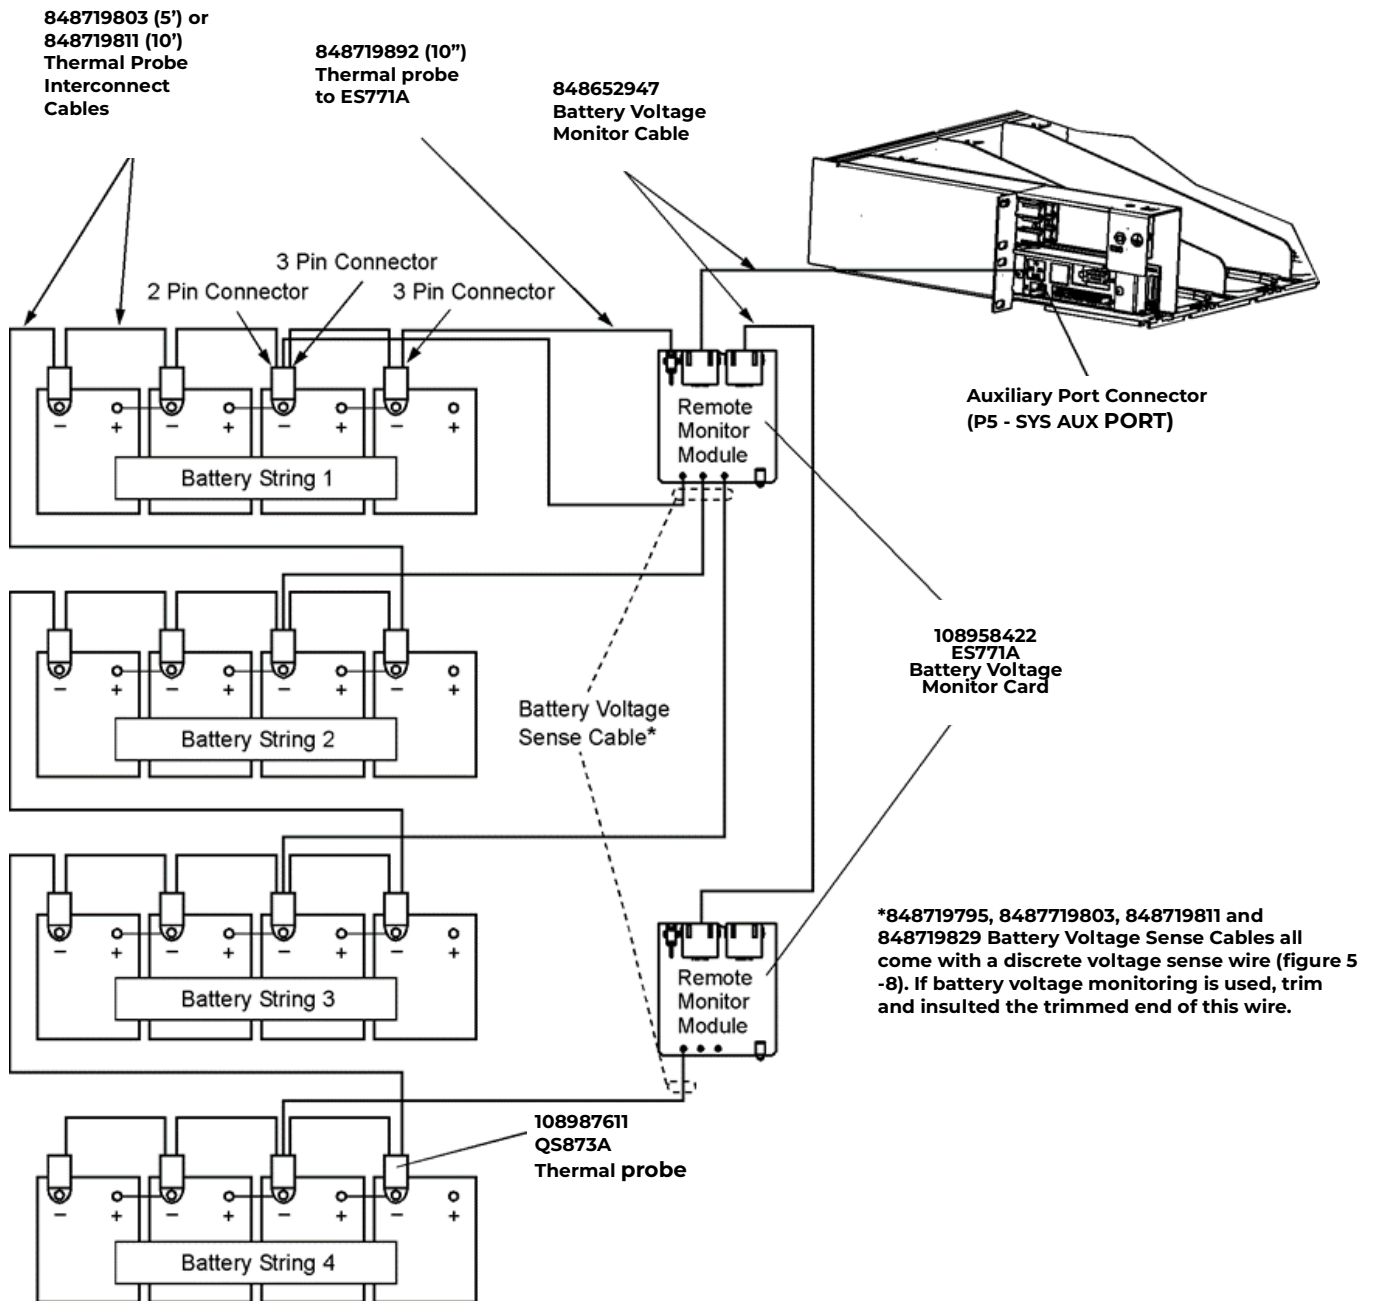

Figure 5-10: VT-Probe/Battery Voltage Monitor Connections to Controller
2.	<p>No - Locate the 848719795 ThermalProbe Cable. Near the 3 Pin connector (Probe end), the volt sense wire has a 1 Pin connector on the end, cut and discard this wire and insulate the trimmed end.</p> <p>Yes - Connect the 848652947 Battery Voltage Monitor Cable between the ES771A Battery Voltage Monitor Card and the controller P5- SYS AUX PORTconnector. See Figure 5-10.</p>